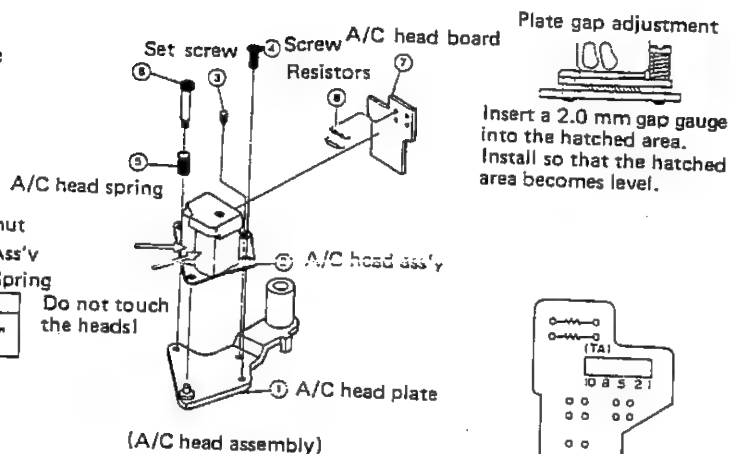

Figure 24
7. Set the tracking knob to a preset position and adjust the X position adjustment nut shown in Fig. 24 so that the RF envelope is maximum on the CH1 side.